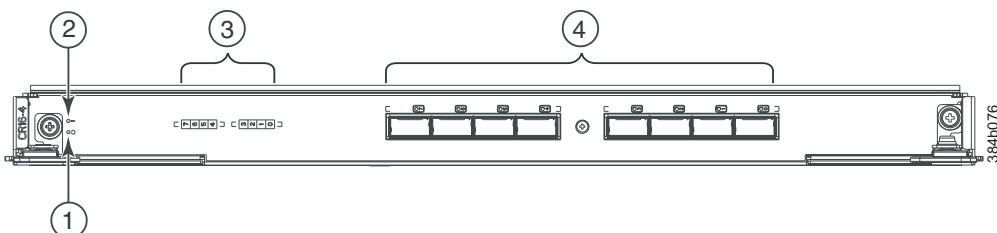

Figure 28. Core switch blade (CR16-4)
1. Check the LED indicators on the core switch blade (Figure 28). The LED patterns may temporarily change during POST and other diagnostic tests; for information about how to interpret the LED patterns, see Table 11.
Figure 28 shows the CR16-4 core switch blade and its components.